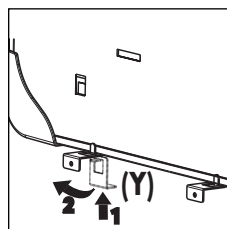

Fig.3
6. Position the lower brackets (Y) into the tabs located in the base of the heater. See Fig 3. Move the bracket up until it is horizontal and then fix them with the screws provided.